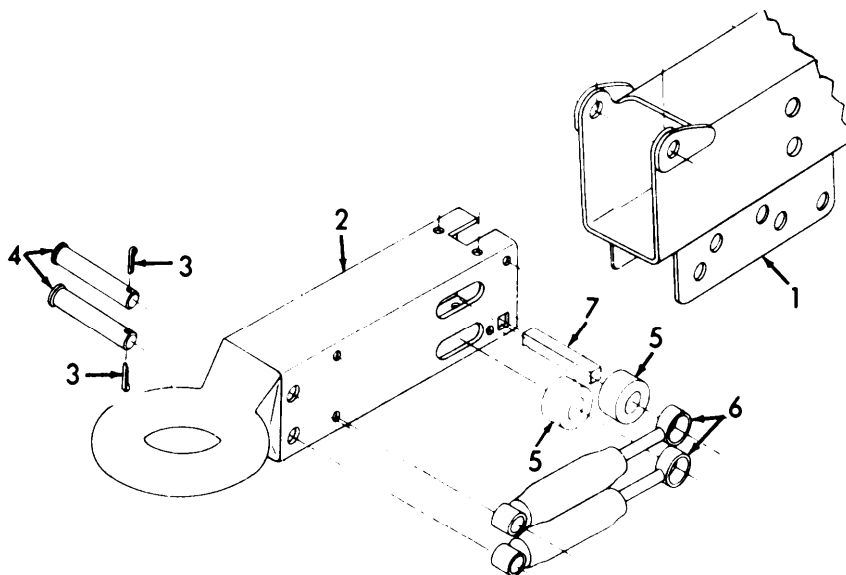

Figure 3-51. Damper, Removal.
- (2) Separate lunette eye (2, Figure 3-51) from brake actorator housing(l).
- (3) Remove two cotter pins (3) and two damper pins (4).
- (4) Remove push rod block (7), two rollers (5), and two dampers (6) from lunette eye (2).